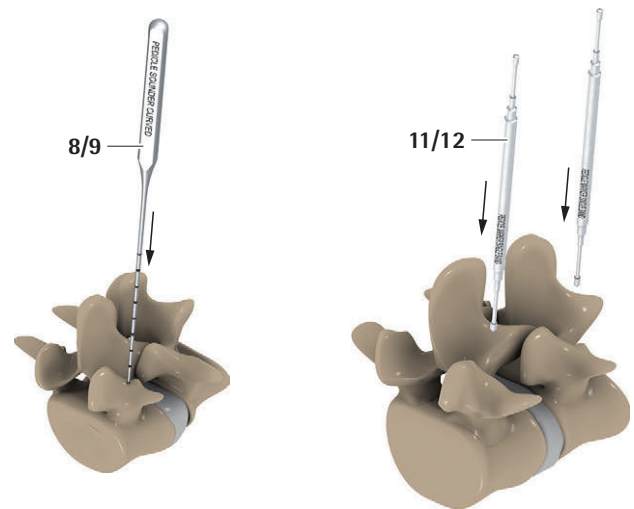

Fig. 2
- ▶ Verify integrity of the pedicle channel and cortex of the vertebral body: Probe pedicle channel/cortex of vertebral body with pedicle probes **8/9**, see Fig. 2.